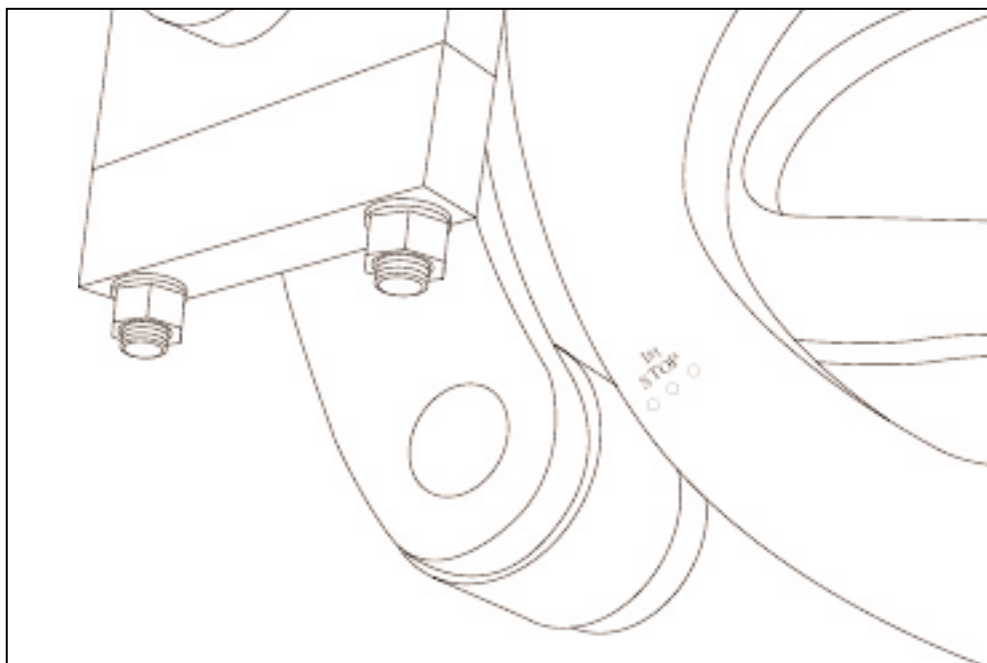

Figure 4.3 "FIRST STOP" (R.H. side of machine).
- 4.1.2 Run machine to "first stop" (see figure 4.3) "First stop" is obtained when the punch marks on the right side of the outside cam are in line with the roller.